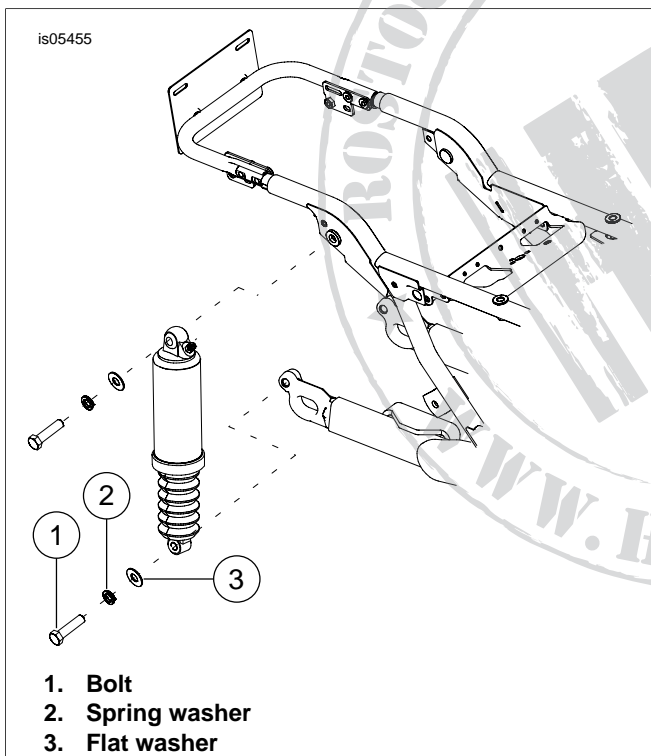

Figure 3. Removing Rear Shock Absorber
9. See Figure 3. Remove the lower mounting bolts (1), spring washers (2) and flat washers (3) from the shock absorbers.